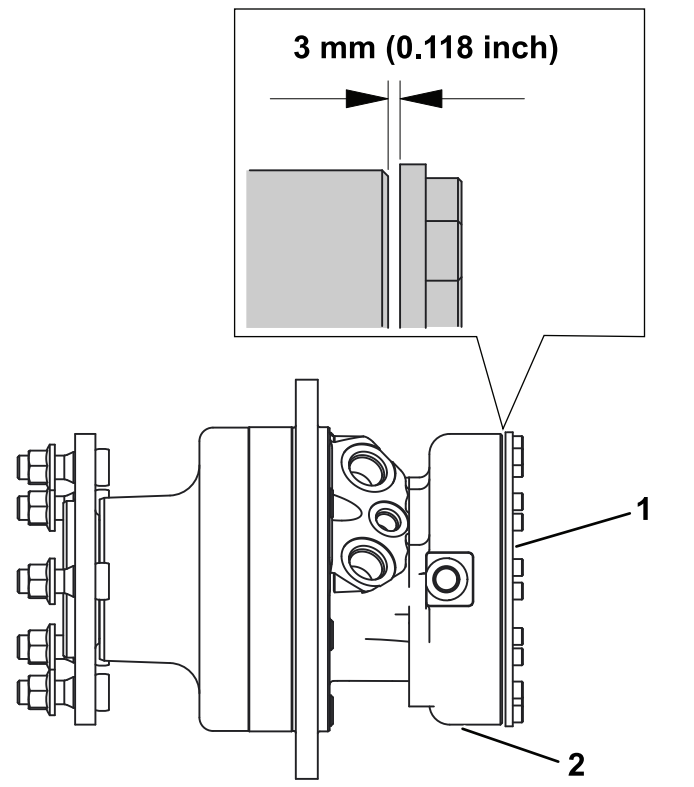

Figure 3
5. The brake will be released when the gap between the end cover and the brake housing is approximately 3 mm (0.118 inch); refer to Figure 3.